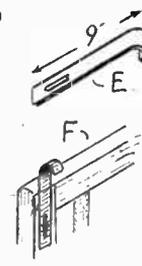

Fig. 4—Metal hangers
To support the bed rest, a pair of metal fitments will be needed. These can be bent up from $\frac{1}{4}$ in. by $\frac{3}{4}$ in. metal bar to the shape seen at (E) in Fig. 4. Allowing a little extra for the bend at the top, a total length of 11ins. for each will be about enough. The curved top parts should fit over the head of the bed, as seen in the general view of the completed article.